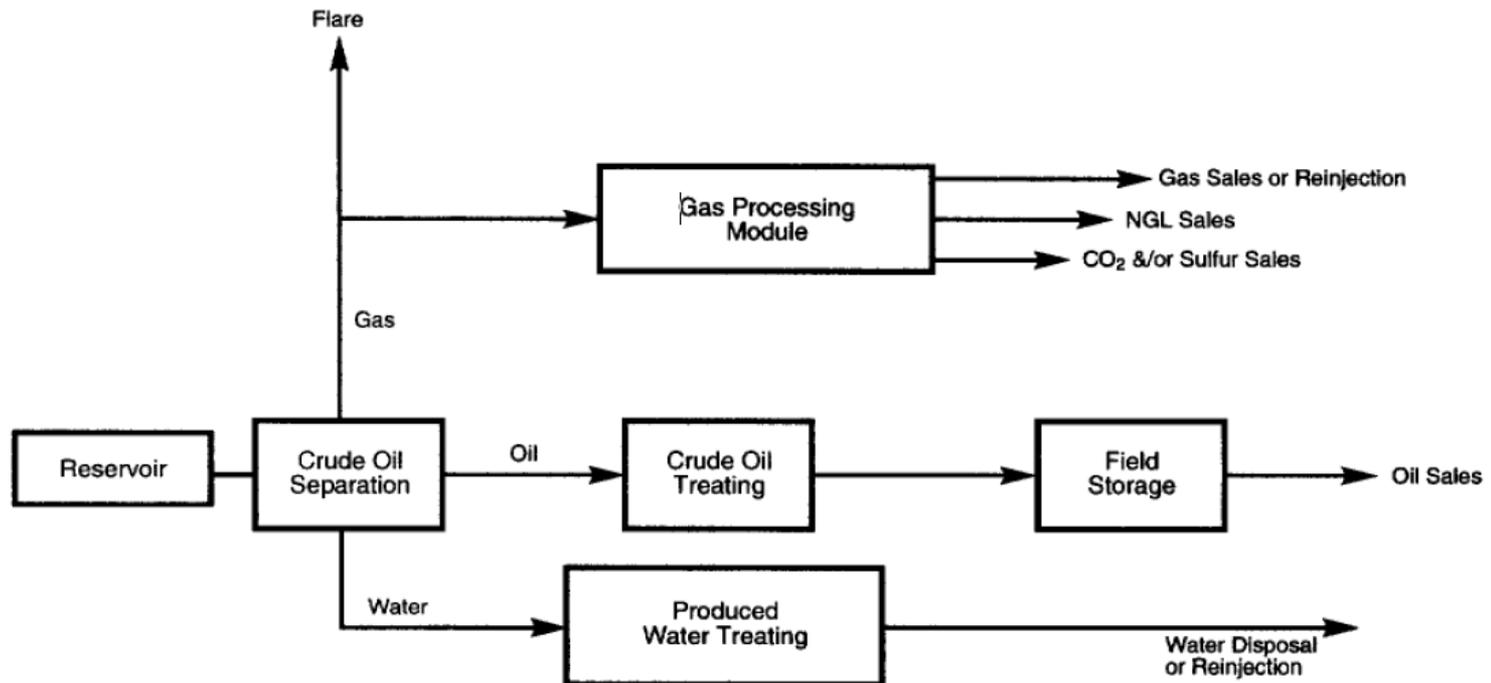

Figure 1.1 Schematic View of a Total Production Processing System
- Figure 1.1 represents a fairly complete processing setup for handling produced fluids. It encompasses almost all systems used.